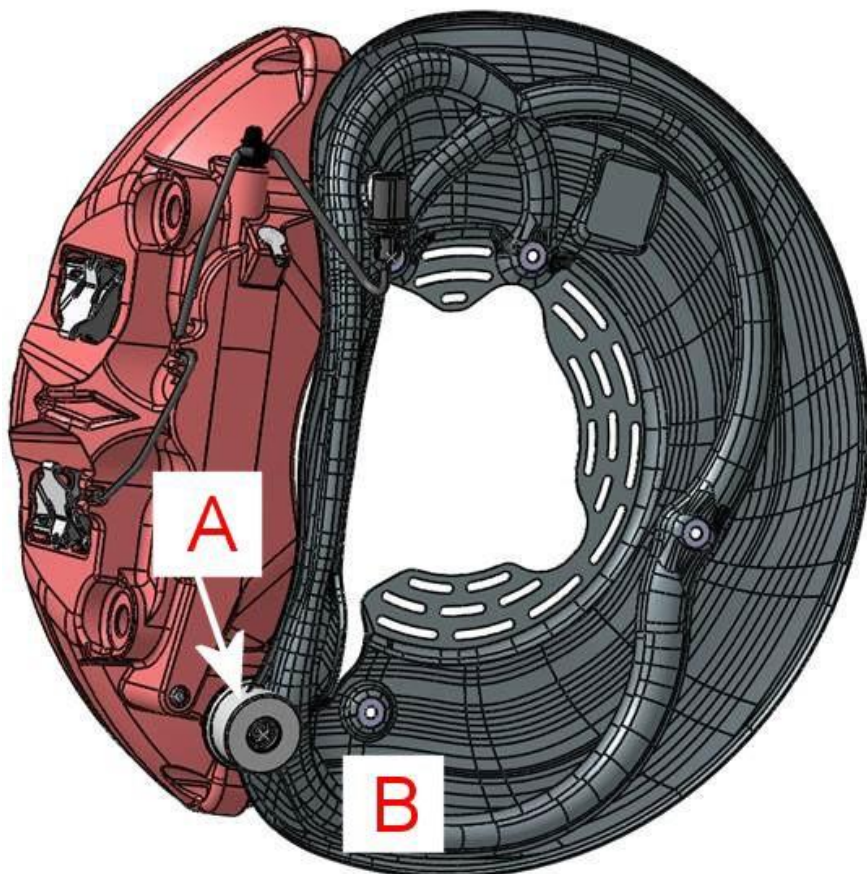

Figure 1
Referring to Figure 1, the replacement front callipers have a Dynamic absorber fitted (A), the brake disc guard plates (B) are pre modified to fit around the absorber